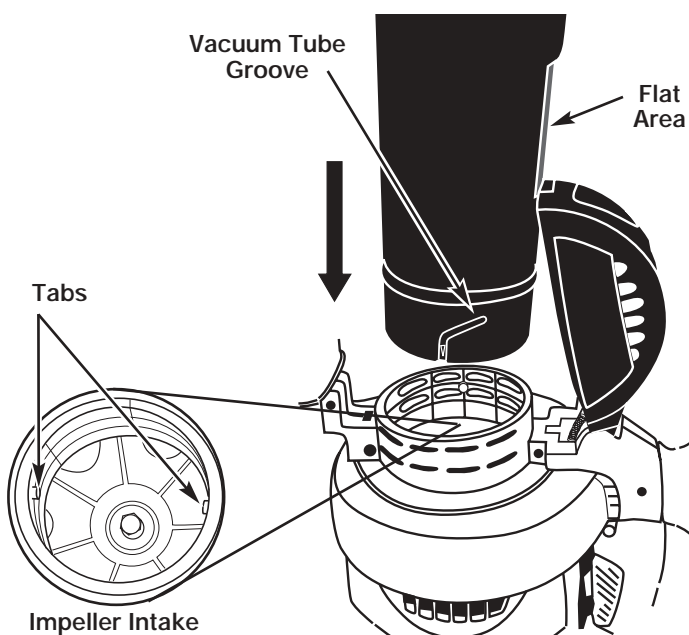

Fig. 5
5. While holding the vacuum door open, locate the assembled vacuum tube (put together in Step 2). Arrange the tube so the flat area faces the vacuum door. The grooves on the side of the tube will line up with the small tabs in the impeller intake (Fig. 5). From the exterior, align the small arrow on the vacuum tube with the arrow on the impeller intake.